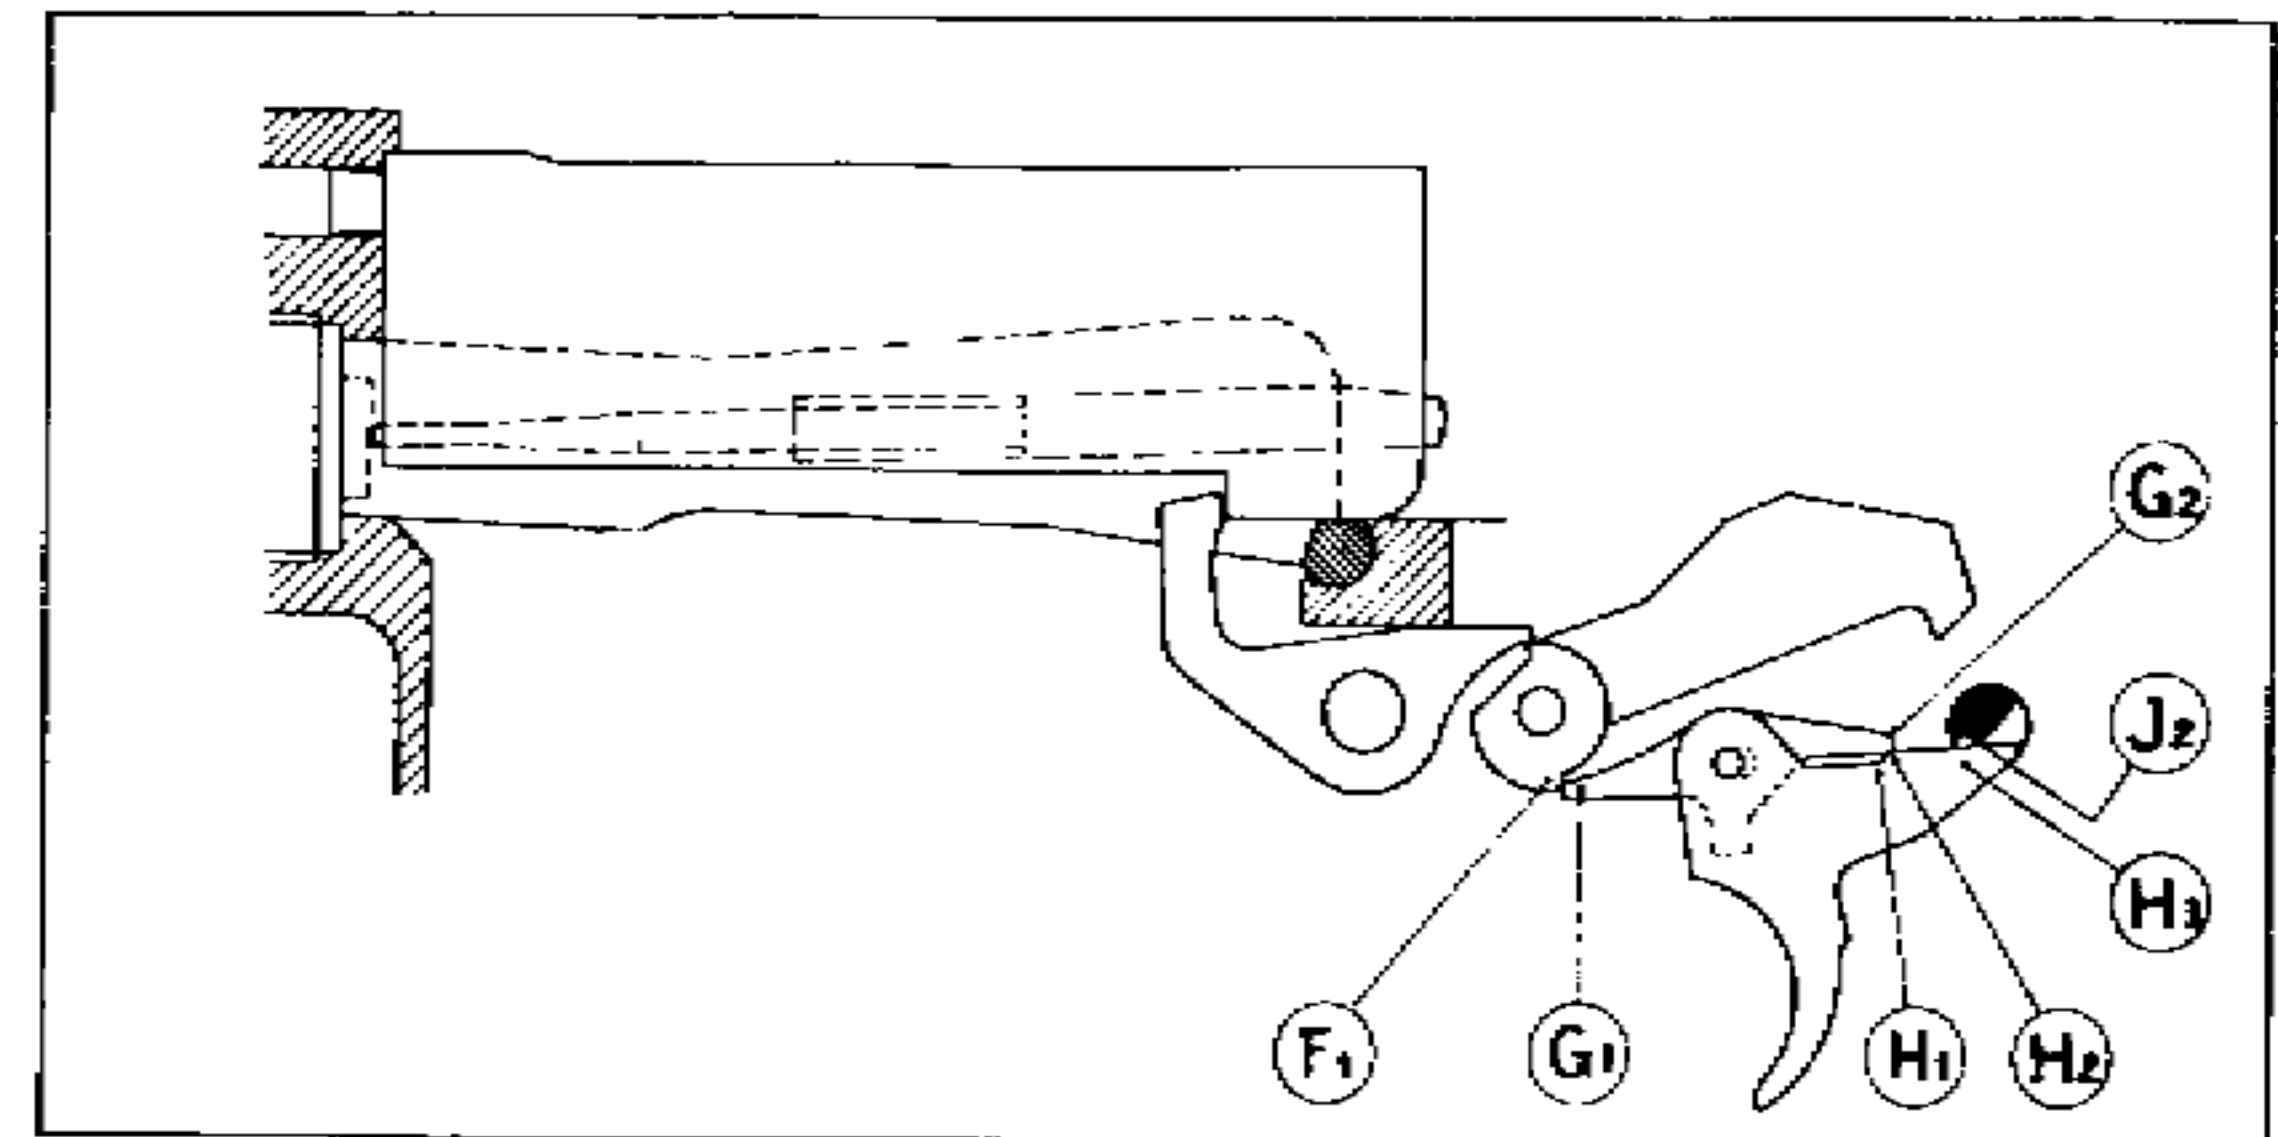

Fig. 15
- The safety sear, tripped by the slide, is released from the upper bent of the hammer (fig. 15); the hammer rotates forward until the lower bent (F1) is engaged by the nose of the trigger sear (G1).
- The change lever axis is now positioned with its shallowest notch (J2) in contact with the rear part (H3) of the trigger (fig. 15).
- When the trigger is pressed, the rear shoulder (H2) of the trigger contacts the rear arm (G2) of the sear (fig. 15). (This gives the feeling of initial pressure.)
- The hammer pivots slightly around its pin and again moves forward to be caught by the nose (G1) of the sear in the lower hammer bent (F1), causing the sear to withdraw against the vertical part of the rear shoulder of the trigger (H2) (fig. 15).